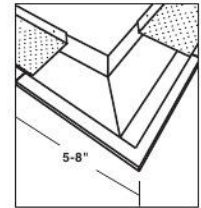

Fig. 4a
4. To install an outside corner, stop the section of Gutter Warrior™ LT 5-8" from the outside corner, leaving a space to apply the gutter sealant. (Fig. 4a)